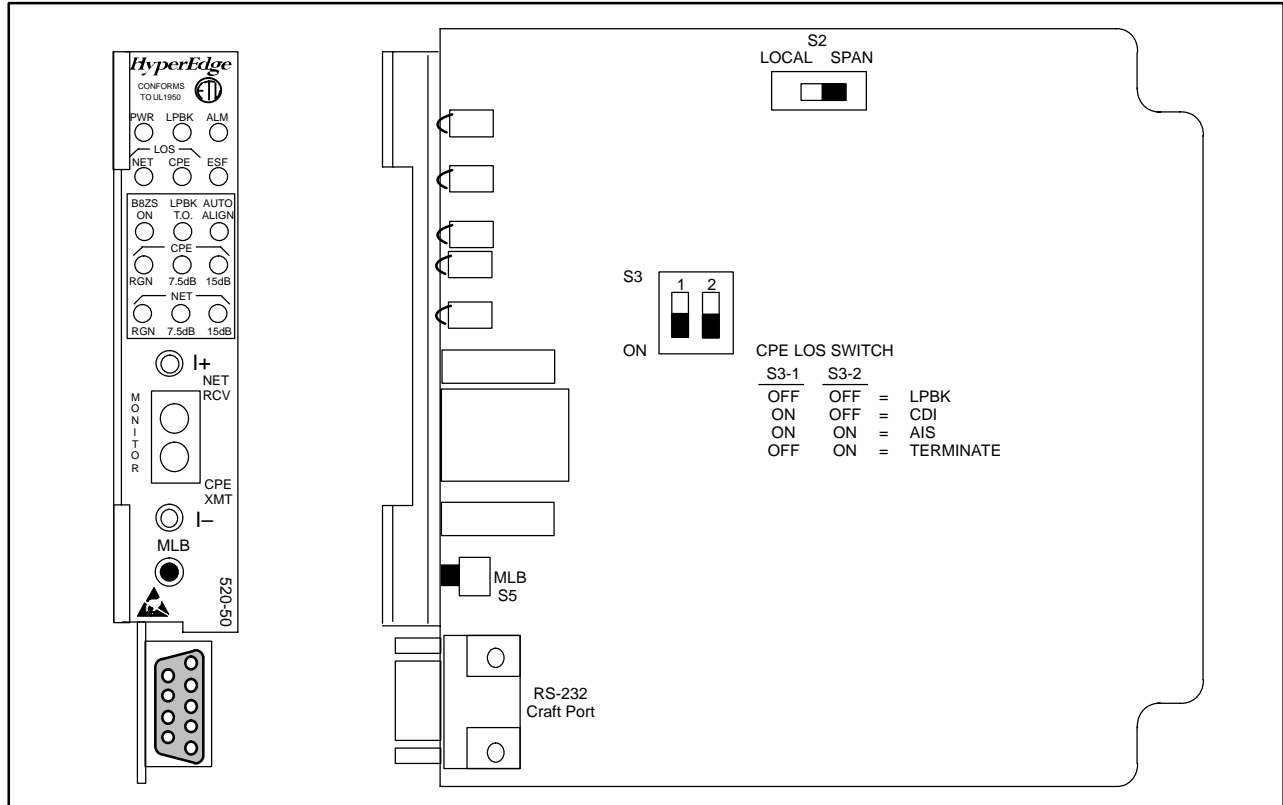

Figure 2. 520-50 Option Location and Front Panel Diagram
4.01 The 520-50 provides the ability to be locally provisioned via the front-panel MLB button or using the S3 switch option. See Figure 2 for the Option and Front-Panel diagram. The following features can be locally provisioned:
4.02 The 520-50 can be configured to send an Alarm Indication Signal (AIS), enter Loopback (LPBK), send a Customer Disconnect Indication (CDI), or to terminate the CPE upon detecting a customer loss of signal. The installer must first set option switch S3 (see Figure 2) on the main printed circuit board to configure the unit for the appropriate response upon a loss of signal from the customer.